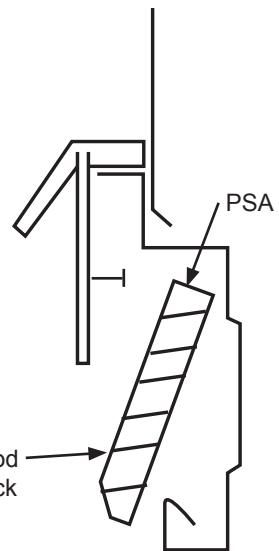
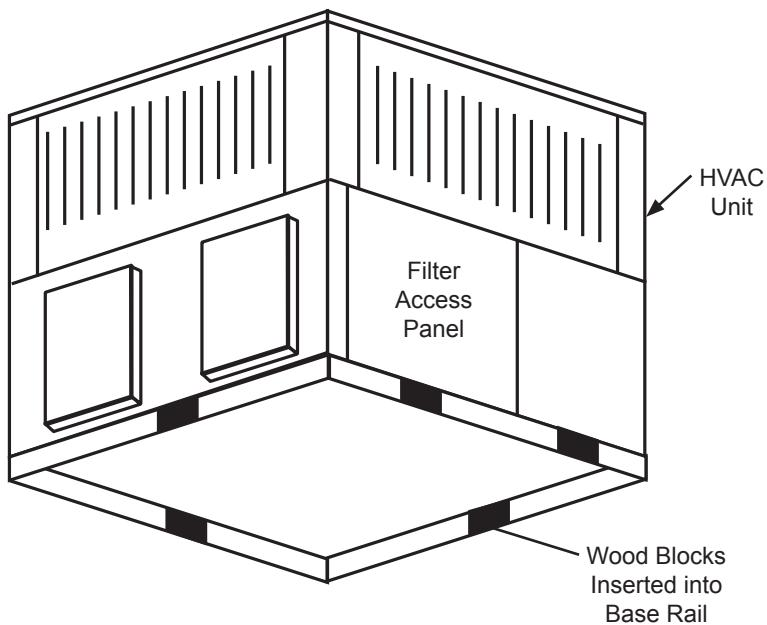

FIG. 11 - Wood Block Installation
FIG. 12 - Wood Block Location
4. Install the pressure sensitive adhesive, provided with CPGSKTKIT001A00, on the top of the wood spacers, see Fig. 11. This will hold the spacer in place during installation.
5. Insert the (5) wood spacers into the inside of the base rails, see Fig. 11 and 14. NOTE: There will be (2) spacers in the base rail on the side of the unit with the filter access door. See Fig. 12.